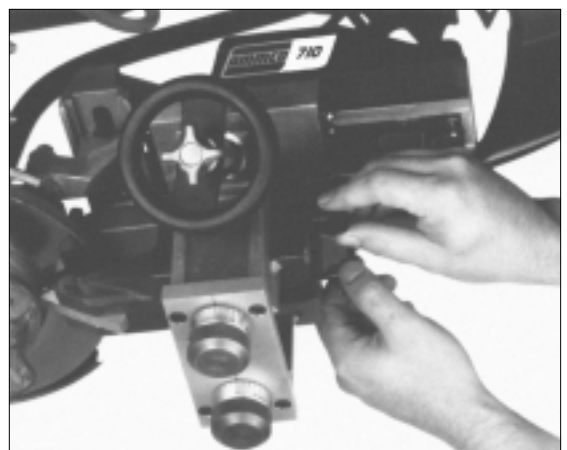

Figure 18
**14.** Tighten the cutter locking knobs, Fig. 18.